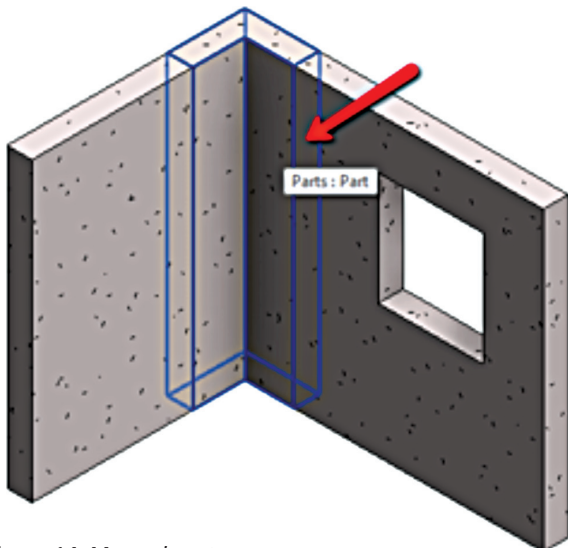

Figure 14: Merged parts
- Merging Parts (Figure 14 depicts two parts merged).